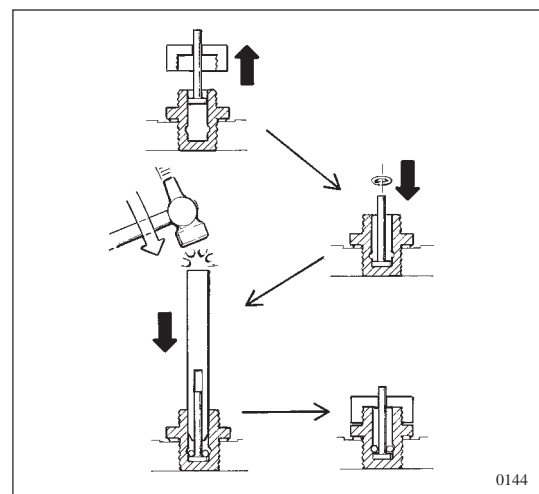

Figure 15. Replacement of fuse
- The machine comes with a repair kit consisting of a ring of fuse material (tin alloy) and a mandrel. Replace the fuse as follows (see figure 15):